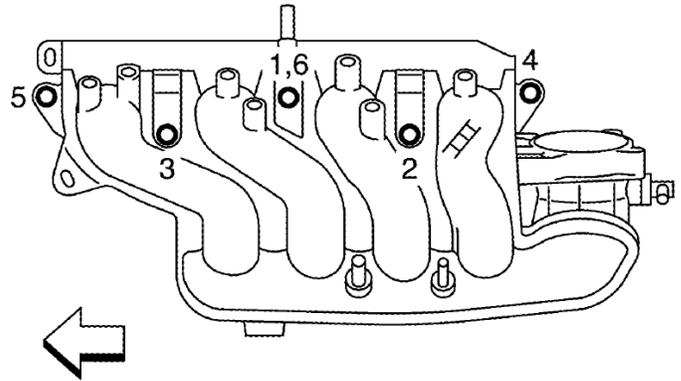

Figure 41
a. Hand start all bolts first. Then torque 5 bolts on top in the order shown in Figure 41.